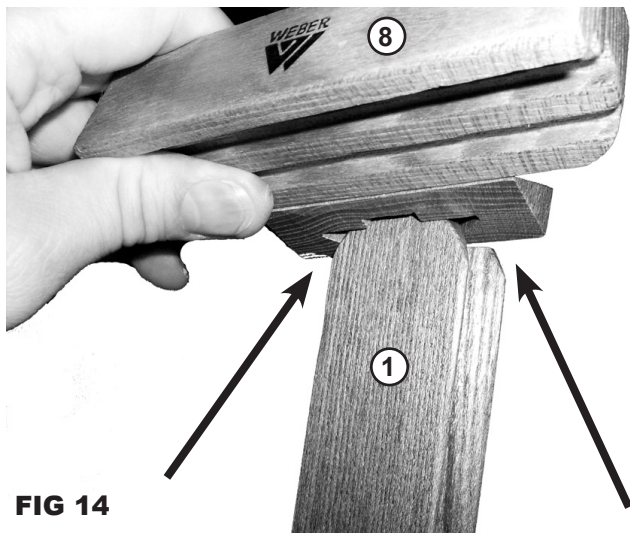

FIG 14
STEP 14. Attach Upper Canvas Support (H) to easel by sliding the canvas support over the top of the Center column making sure the grooves of the center column slide in between the channels of the Upper Canvas Support. See FIG 14